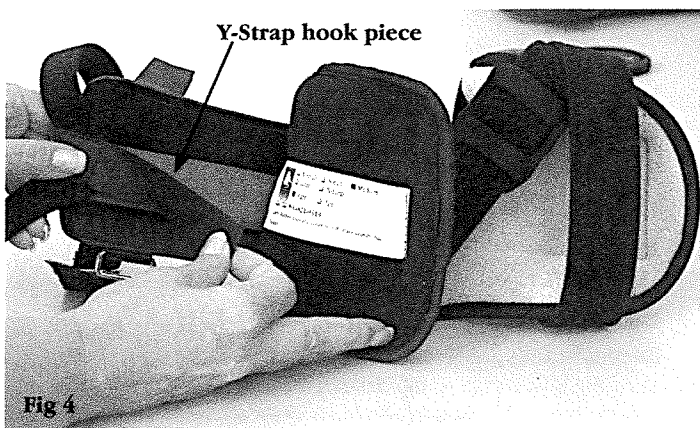

Fig 4
- Lift the liner up off the forearm area and place the hook part of the “Y” strap on the padded center section (figure 4).